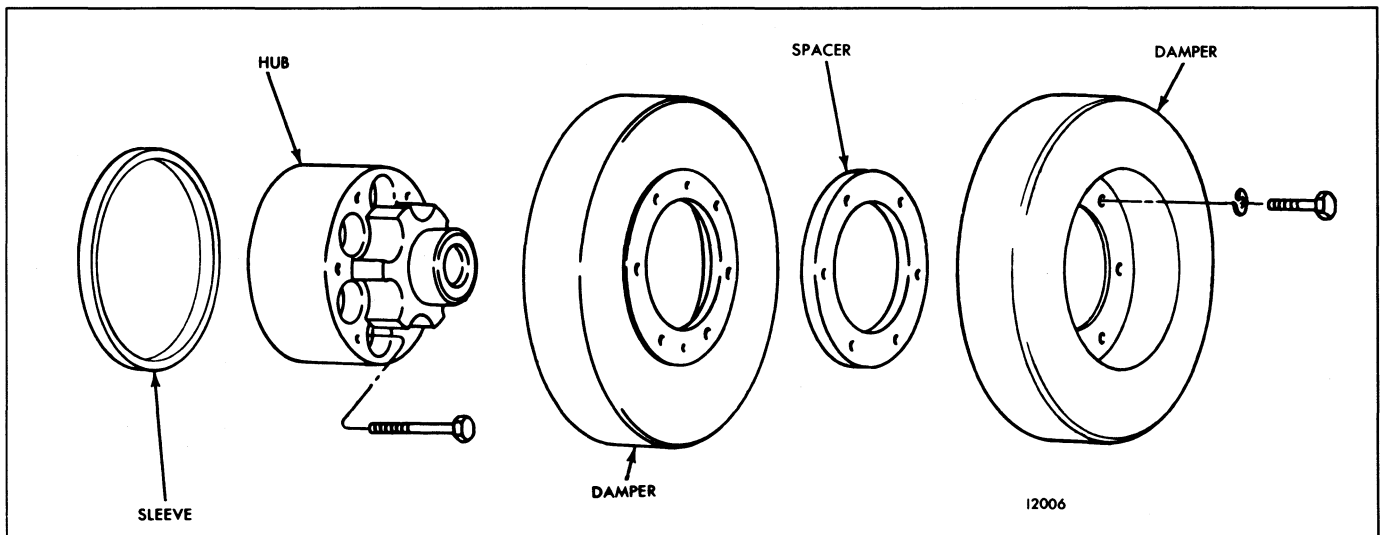

Fig. 2 - Vibration Damper, Hub and Sleeve Assembly Details and Relative Location of Parts (12V Engine)
2. Remove the six bolts and lock washers securing the inner and outer vibration dampers to the vibration damper hub and remove the vibration dampers and spacer (Fig. 2)